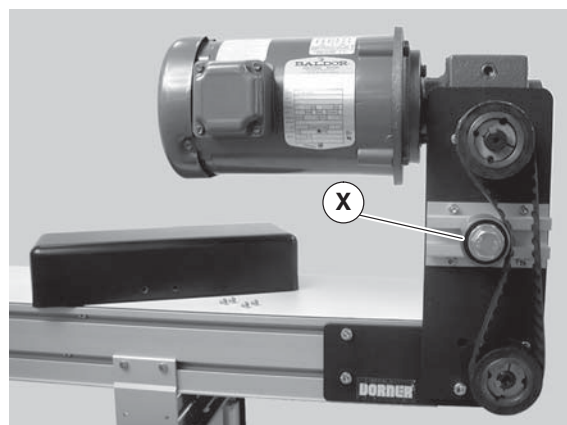

Figure 12
2. Loosen tensioner (Figure 12, item X).
3. Loosen tensioner (Figure 12, item X).